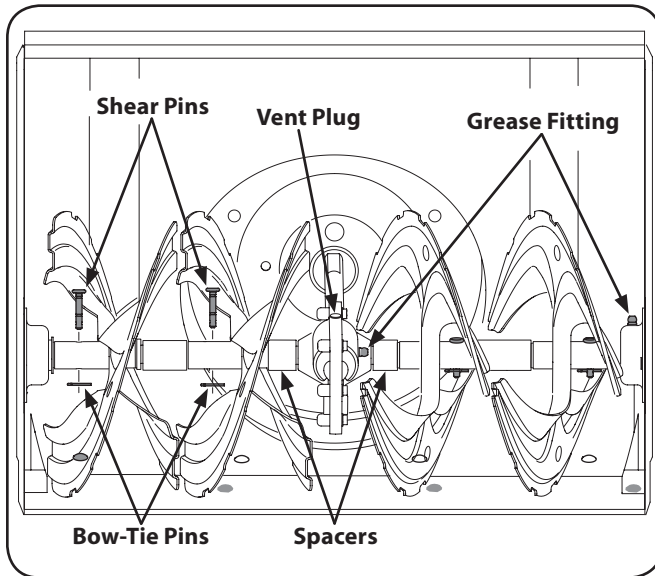

Figure 6-3
At least once a season, remove the shear pins from the auger shaft. Spray lubricant inside the shaft and around the spacers along the shaft. Using a grease gun, apply two strokes of grease (Part Number 737-0168A) to the fitting found at each end of shaft. See Fig. 6-3.
**NOTE:** To relieve pressure, remove the vent plug before lubricating the gear case. See Figure 6-3. Failure to do so could result in damage to the gear case seals.